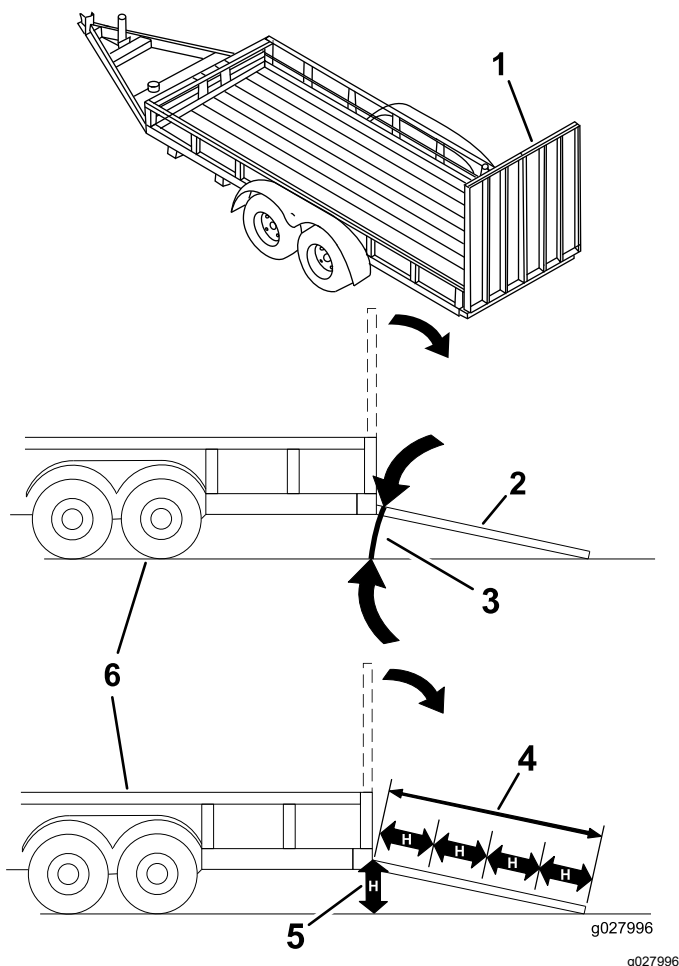

Figure 40
Loading a machine onto a trailer or truck increases the possibility of tip-over and could cause serious injury or death (Figure 40).
3. Lower the ramp, ensuring that the angle between the ramp and the ground does not exceed 15 degrees (Figure 40).
1. Lower the ramp, ensuring that the angle between the ramp and the ground does not exceed 15 degrees (Figure 40).